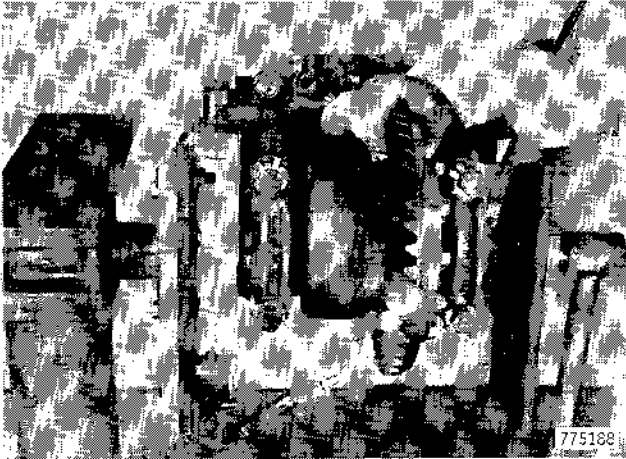

Figure 206
55. Turn adjusting nut on the side opposite the ring gear teeth in and the opposite nut out the same amount until clearance is between .007-.009 inch (0.17-0.22 mm), Figure 206.